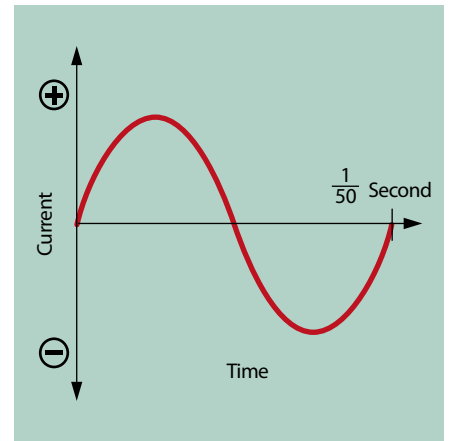

FIGURE 4 Alternating current (AC)
Older, heavy transformer-based welding units running from mains power use alternating current (AC), which means the current direction regularly changes from negative to positive (Figure 4). Australian supply voltage is regulated to a frequency of 50 Hertz, which means the current changes from positive to negative 50 times a second.